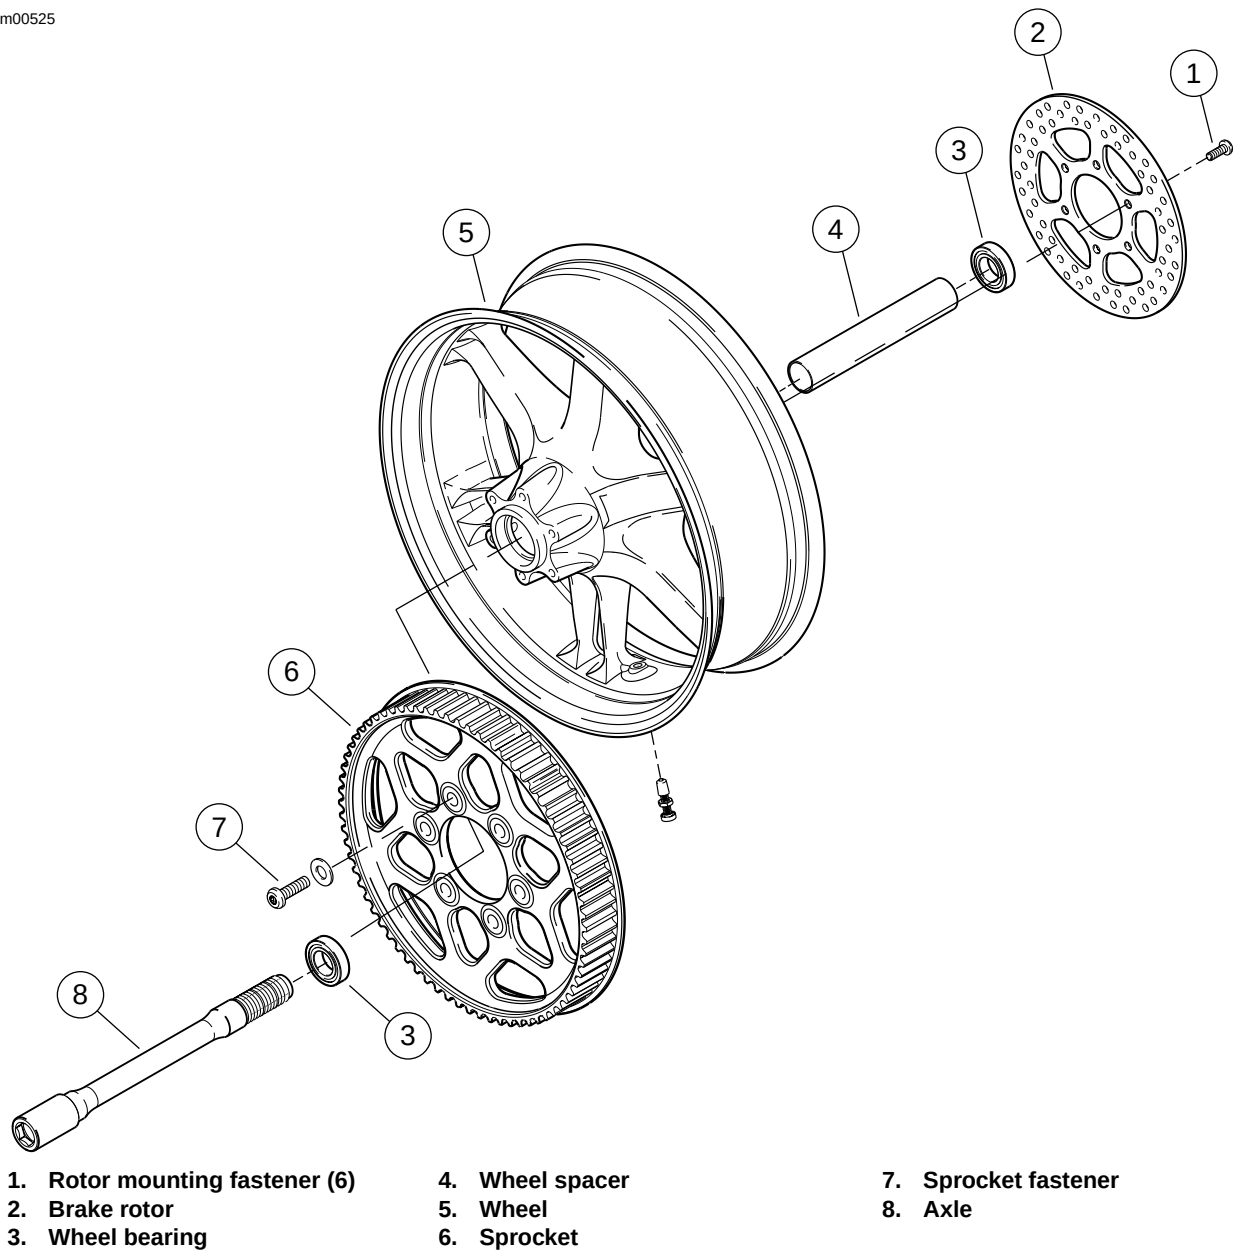

Figure 2-20. Rear Wheel Assembly
- 1. See Figure 2-20. Remove sprocket.
- a. Remove sprocket fasteners (7) and washers. Discard fasteners.
- b. Remove sprocket (6) from wheel.
- a. Remove and discard rotor mounting fasteners (1).
- b. Remove and inspect brake rotor (2) for wear and warping. See 1.6 BRAKE SYSTEM MAINTENANCE, Brake Rotor Thickness and 2.14 REAR BRAKE CALIPER.
- See Figure 2-20. Install wheel bearing (3) on rotor side of motorcycle.
- Install rear wheel spacer (4).
- Install wheel bearing (3) on sprocket side of motorcycle.